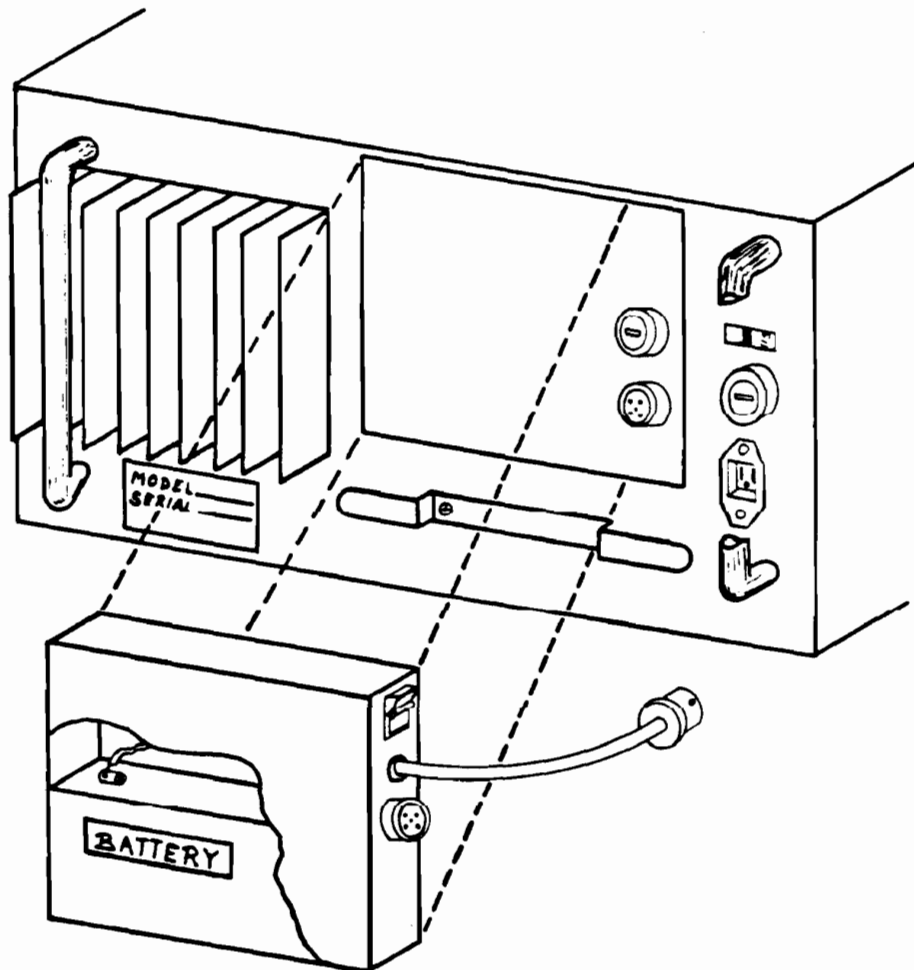

Figure 2-1. Battery Pack Installation and Removal
2.05 BATTERY PACK INSTALLATION AND REMOVAL (Figure 2-1)